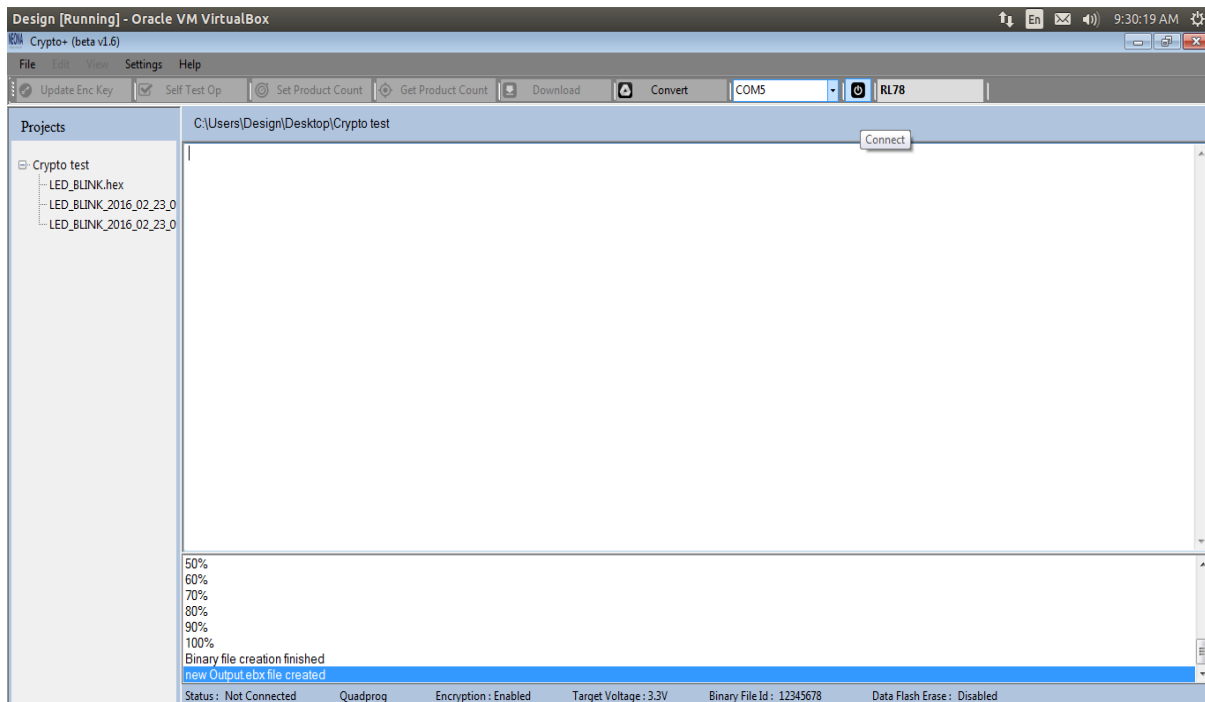

**Figure 2.29**
**STEP 5:** After the successful creation of the .ebx file a message ‘**new output ebx file created**’ is displayed in the text view and the ebx file will be added in the tree-view as shown in figure 2.29.